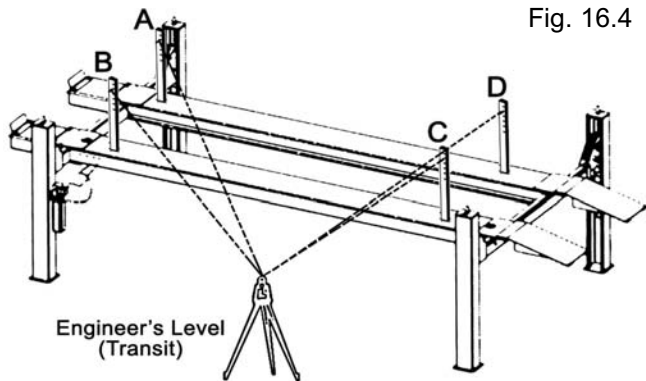

Fig. 16.4
4. Place a Level target on the right/front corner of the runway. (See Fig. 16.4)
5. Beginning with "A" position, sight the level to the target and mark the number or the graduation on the inch scale of the target that aligns to the cross hairs of the Level, (See Fig. 16.4)
6. Next, move the target and place it at point "B" on the runway. (See Fig. 16.4)
8. Adjust the adjustment nut on the safety ladder bar at the top of the column at "B" until the crosshairs of the Level align to reference mark on the target scale. (See Fig. 16.4)
9. Repeat steps locating the target assembly at points "C" and "D" and adjusting safety ladders at each corresponding column until the reference mark on the target scale is on the crosshairs of the Level. The runways are now level at all four points. (See Fig. 16.4)